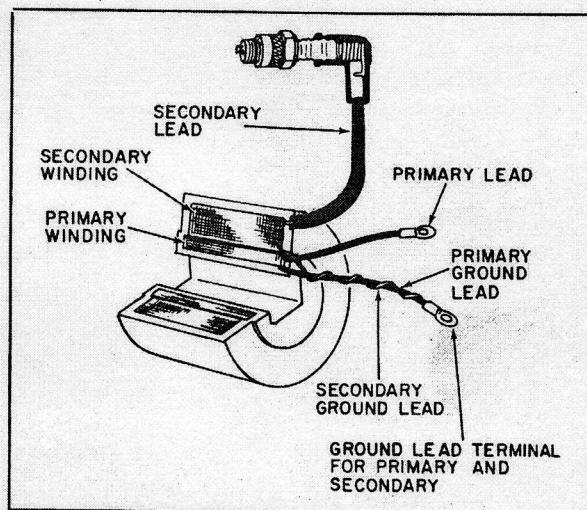

Figure 18
3. The secondary winding, Figure 18, is of extremely fine wire with many turns (about 10,000) wrapped over the primary windings. One lead connects to the spark plug and the other is grounded to the stator body.